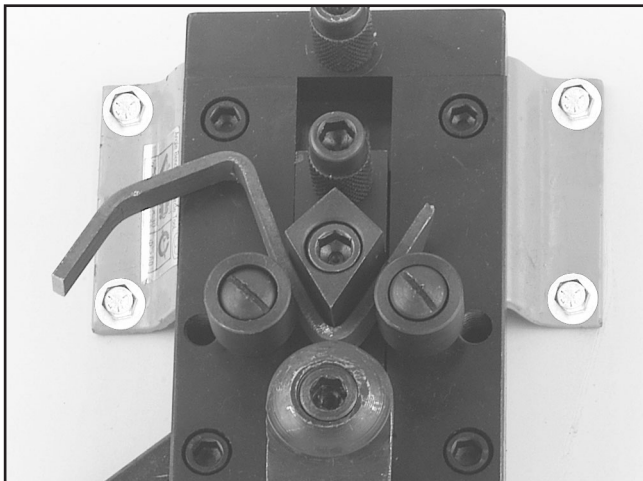
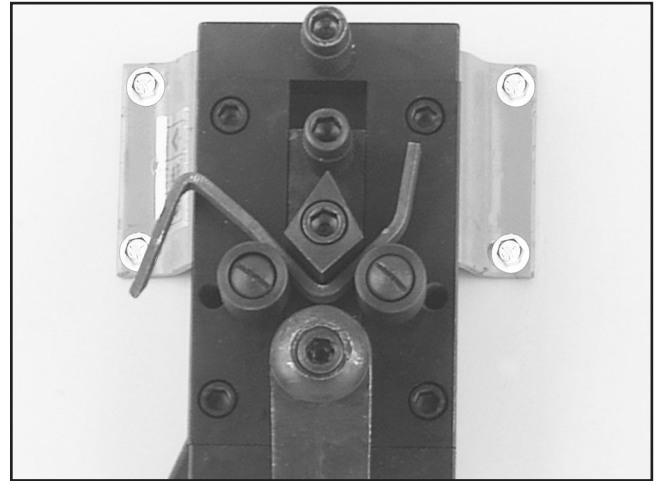

Figure 4. Workpiece bent with the 60° side of the bending block.
Figure 5. Workpiece bent with the 90° side of the bending block.
1. The bending block has two main positions. In one position the block can bend the metal at a minimum angle of 60° (**Figure 4**) and the other at a minimum angle of 90° (**Figure 5**). Choose the one best for the task at hand.